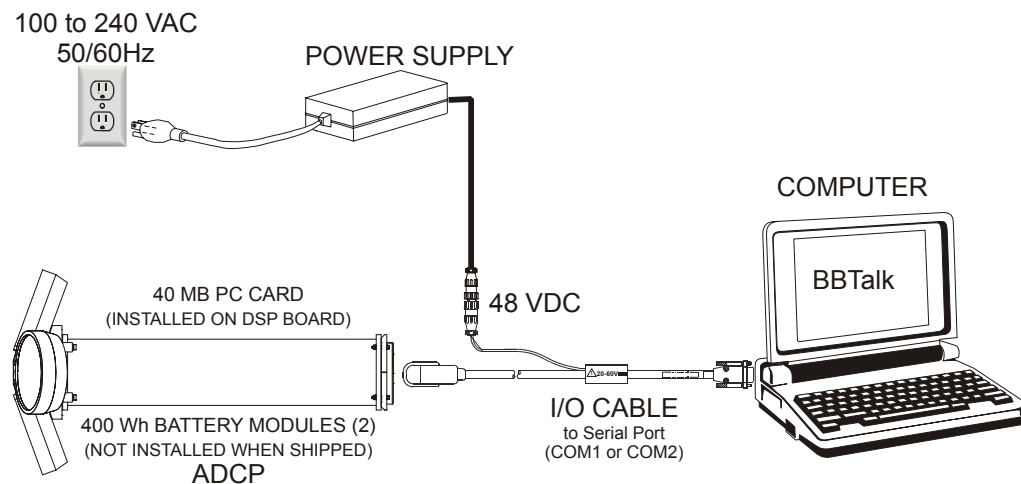

Figure 7. Long Ranger Self-Contained Connections
Use Figure 7 to connect the Long Ranger cables and AC power adapter to test the ADCP on your workbench.
- a. Connect and power up the ADCP as shown in Figure 7, page 12.